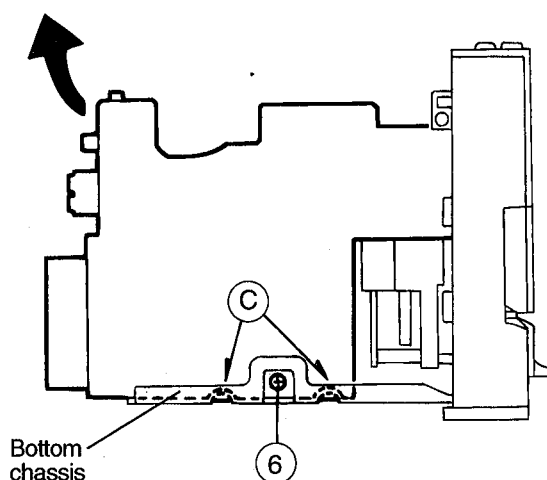

Fig. 10
7. Remove the one screw ⑥ retaining the power amplifier P.C. board. (See Fig. 10)
9. After removing the power amplifier P.C. board from the key way on the bottom chassis, take this P.C. board out while raising it in the arrow direction. (See Fig. 10)